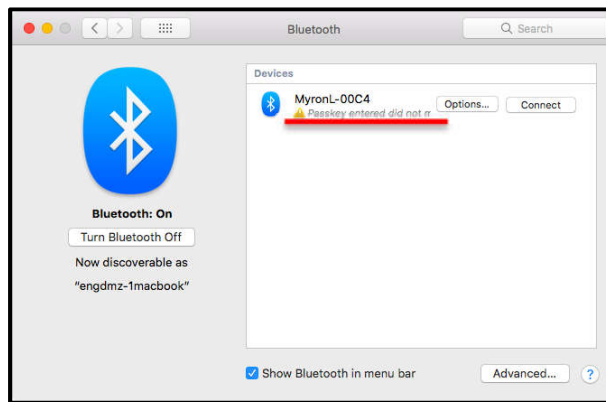

Figure 18
- 4) Once the device gets paired it will display a message as shown in Figure 18 with a red line. This means the computer-generated pass key was not accepted by the device. It shows "0000".